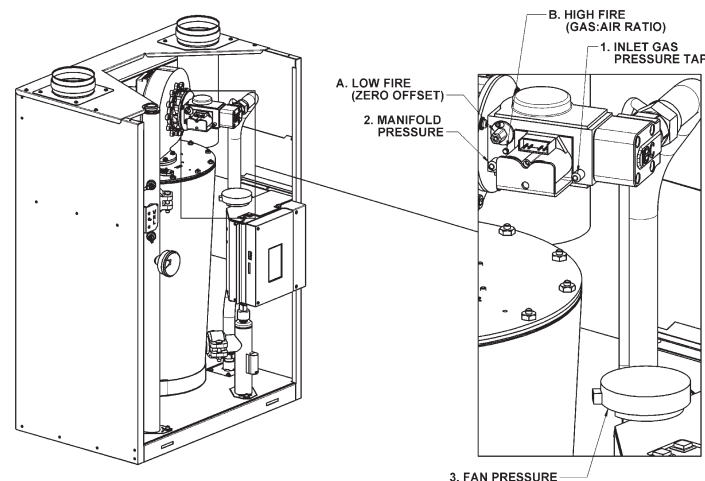

Figure 32: Gas Valve and Pressure Reference System
3. With a combustion analyzer probe in the flue gas test port, turn the High Fire (Gas:Air Ratio) Adjustment screw (see Figure 32) (see Table 8 below for corresponding CO₂ values - set for CO₂ target at high fire). This screw offers very fine adjustment, and may require several turns. **NOTE:** This screw has significant backlash. When changing direction of turn, it may take up to a full turn before any change is indicated on the analyzer reading. Clock the gas meter to confirm full maximum rating plate input.